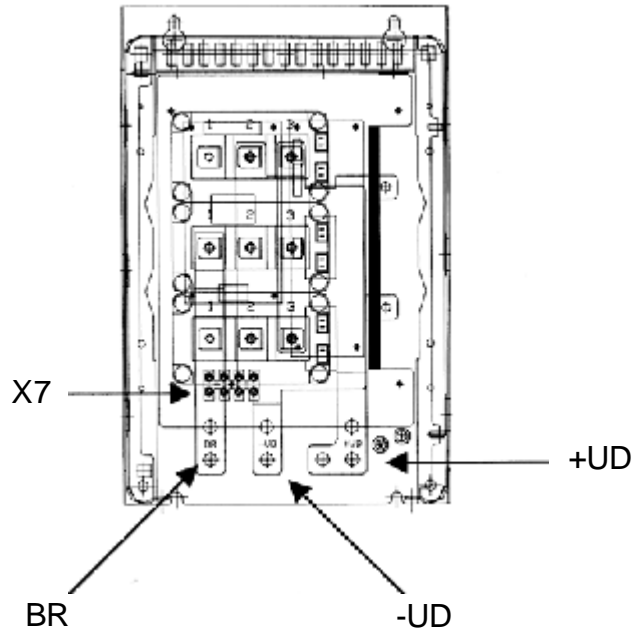

Figure 8.29 - Connection location
8.10.3.3 Installation/Connection Location of the power connections is shown in Figures 8.29 and 8.30.